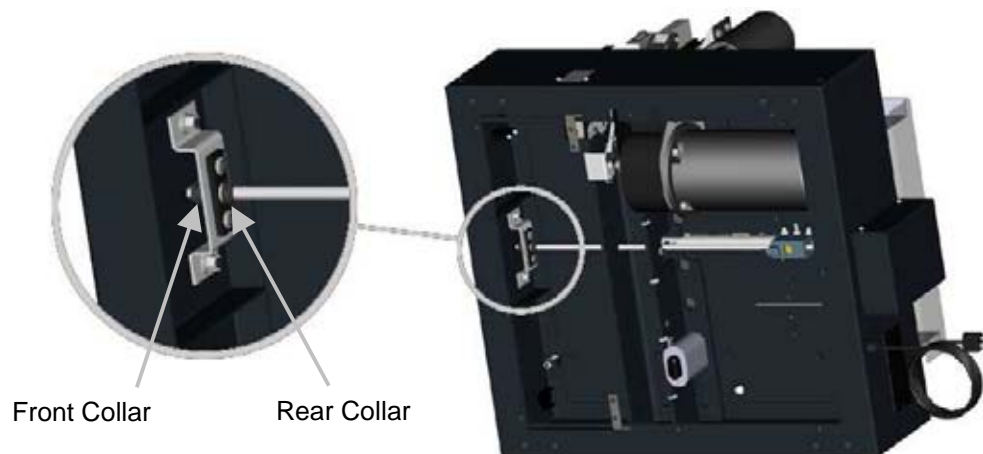

Figure 13
4. Loosen set screw in FRONT collar only (Figure 13, page 19), slide and hold collar tight against mounting block, then tighten set screw.